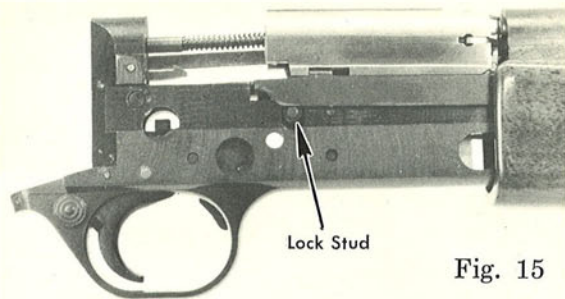

Fig. 15
5) Apply forward pressure on the forearm until you can engage slide arm into its recess on right side of bolt. Be sure that the slide arm lays flush and that the lock stud is below the camming surface of the slide arm. See Fig. 15. Engaging the slide arm will cause the lock to now **disengage** from the bolt undersurface.